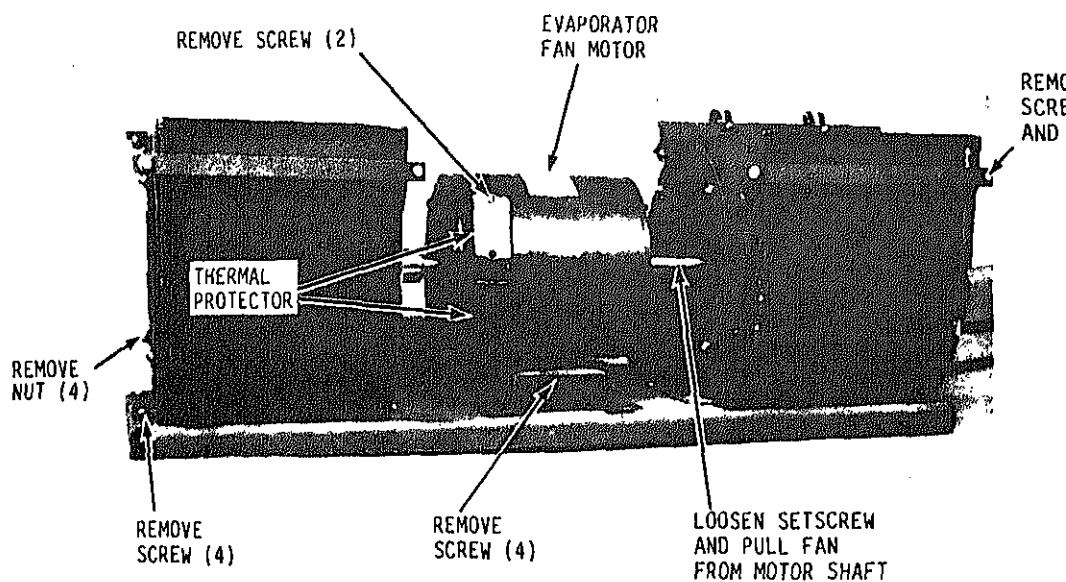

Figure 4-8. Evaporator, fan, motor, and thermal protector, removal and instal-
(3) Refer to figure 4-8 and disassemble the fan and motor assembly.
(1) Refer to figure 4-8 and remove housing from the high and low speed motor winding thermal protectors. Refer to para 4-22c and test thermal protectors.
(2) Test the motor for open-circuited or grounded windings as follows.
(1) Refer to figure 4-8 and assemble the fan and motor assembly.
(1) Refer to paragraph 4-21c and remove evaporator fan and motor assembly.
(2) Refer to figure 4-8 and solder thermal protectors.
(1) Refer to figure 4-8, install thermal protectors.
(2) Refer to paragraph 4-21e and all evaporator fan and motor assembly.
(2) Refer to figure 4-8 and remove the thermal protector.
(1) Refer to figure 4-8 and install the thermal protector.